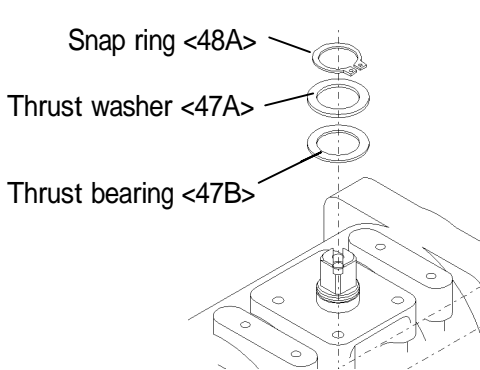

Fig.12
(4) Lubricate the shaft assembled with the housing. Mount a thrust washer and a thrust bearing on the shaft securely with a snap ring (Fig.12).